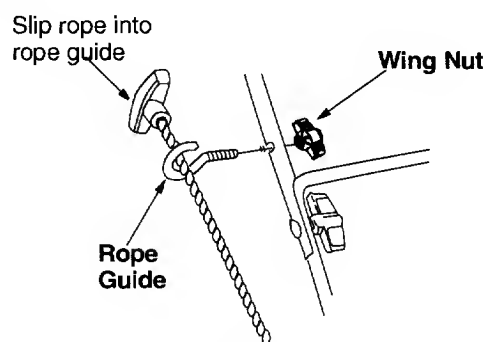

Figure 3
- With the spark plug wire disconnected, hold the blade control handle against the upper handle, and pull the starter rope out of the engine. Release the blade control handle. Slip the starter rope into the rope guide. Tighten the wing nut. See Figure 3.